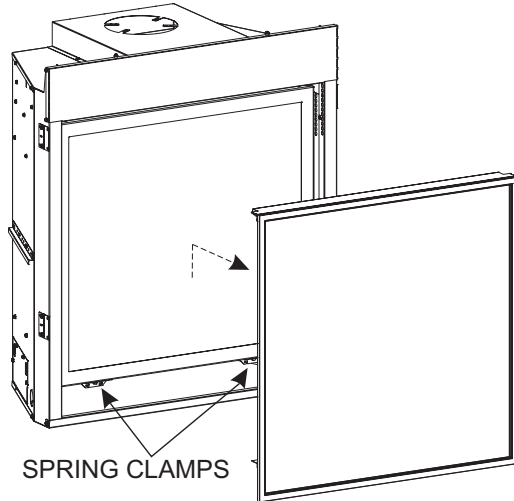

Figure 76
- Check the barrier screen for fit and structural integrity. **See Figure 76.**